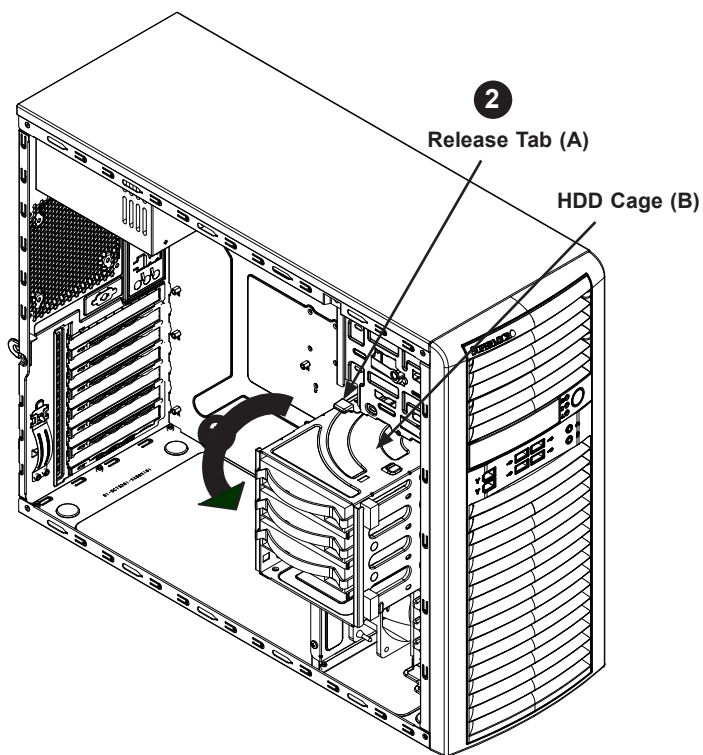

Figure 3-7. Rotating the Hard Drive Cage
1. To rotate the hard drive cage, lift the release tab (A) as shown in Figure 3-7.
2. Rotate the hard disk drive cage (B) outward.